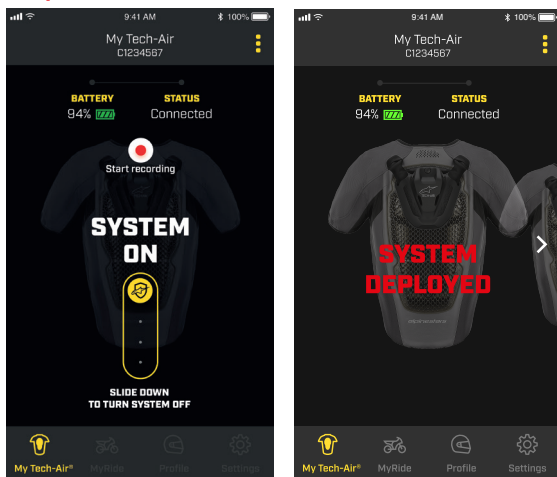

Figure 12
While riding "System On" mode is active and, accordingly, for safety reasons, the user cannot access most of the App functions. In case the System needs to be disabled by the user, such as during a heavy off-road riding session, the System can be turned off using the slide icon on the App (as shown in Figure 12). To reactivate open and close the Front Flap (2).
In case of deployment, the App will show the relevant status with wording SYSTEM DEPLOYED as depicted in Figure 12.